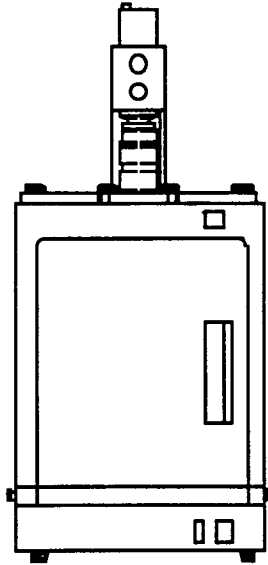

Figure 2. Placing the Bracket onto the Darkroom Hood.
Step 7: Place the bracket / camera assembly on top of the darkroom hood as shown in Figure 2. The four metal studs with spacers on top of the hood should align with the holes in the bracket.